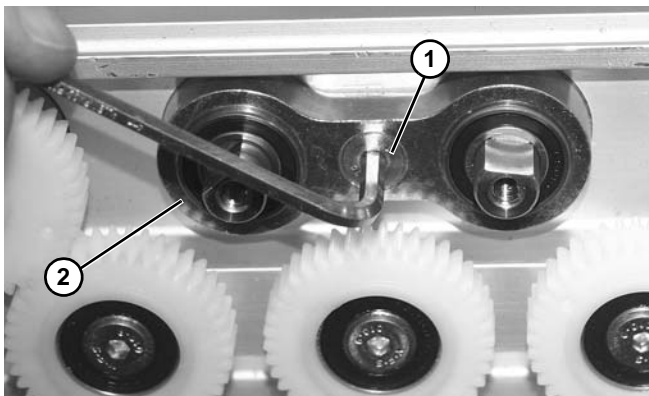

Figure 118
8. Remove screw (Figure 118, item 1) from center of bearing assembly (Figure 118, item 2).